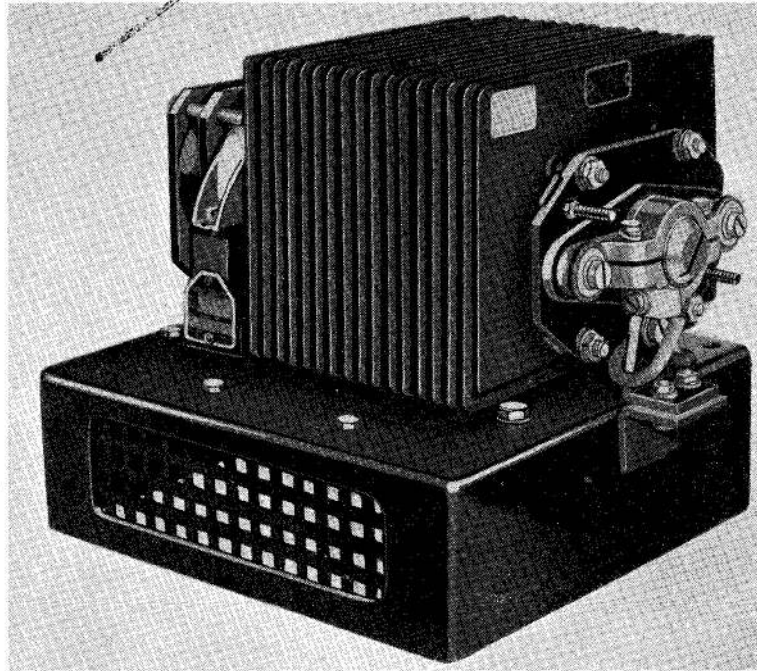

Fig. 1. Voltage regulator, Type 50 (compression screw cover removed)
1. The voltage regulator, Type 50 (fig. 1) is normally used to maintain a steady output of 115 volts a.c. from the generator, Type Y1. General information on this type of regulator will be found in A.P.4343, Vol. 1, Sect. 6, Chap. 2.